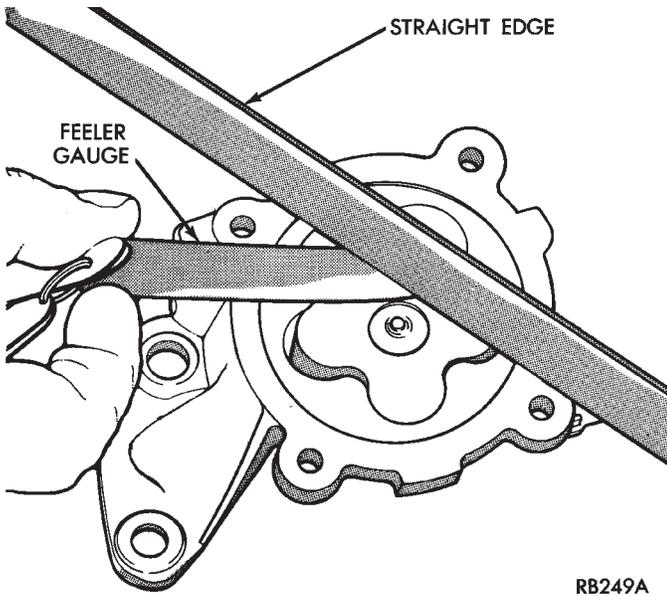

Fig. 8 Checking Rotor End Clearance
- (1) Check rotor end clearance with feeler gauge as shown in (Fig. 8).
- (2) Limits: